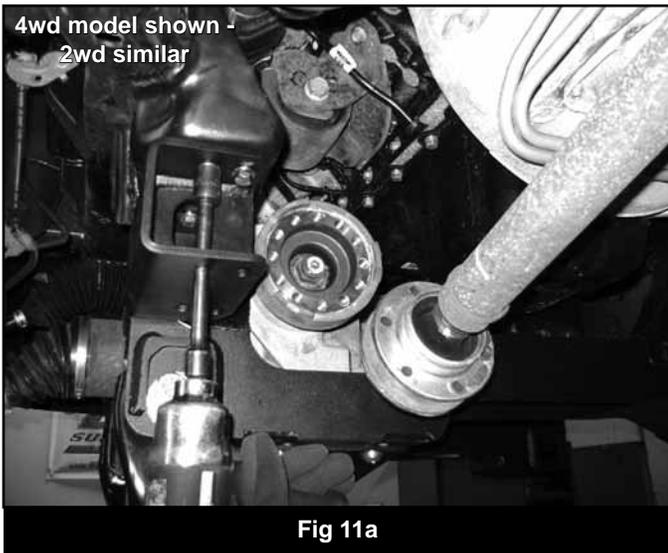

Fig 11a
23. Install the sway bar drop brackets with new $\frac{3}{8}$ " x 1-1/4" bolts, washers and nuts. Run hardware from bottom - up, snug but do not tighten at this time. Attach the crossmember 18mm nut with $\frac{3}{4}$ " USS washer (BP 773). Note: Use a ratchet extension through the lower slots to access the hardware (Fig 11a, 12b)